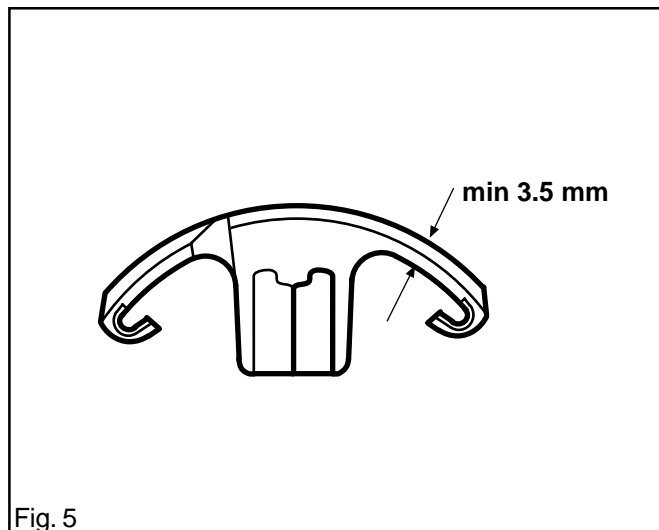

Fig. 5
1. The lining thickness on the clutch shoes must not be less than 3.5 mm at the most worn point. See fig. 5.